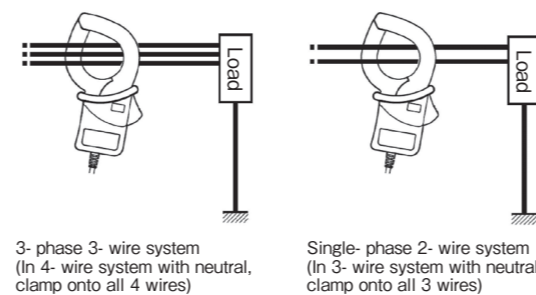

Fig.1 Measuring out of balance leakage current
- (1) Measuring out of balance leakage current (See Fig.1):Clamp onto all conductors except a grounded wire.